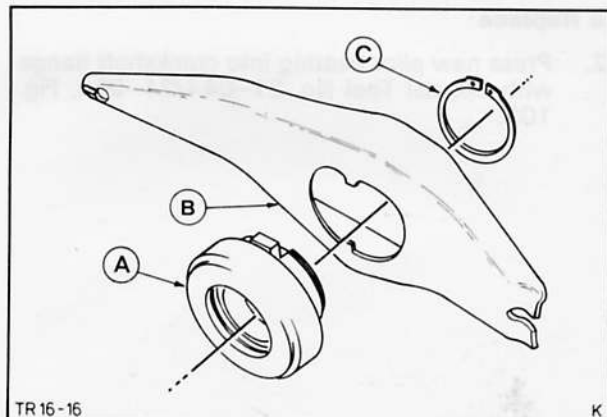

Fig. 101. Fit release lever with thrust bearing
51. Install clutch thrust bearing and release lever in clutch housing, Fig. 101.